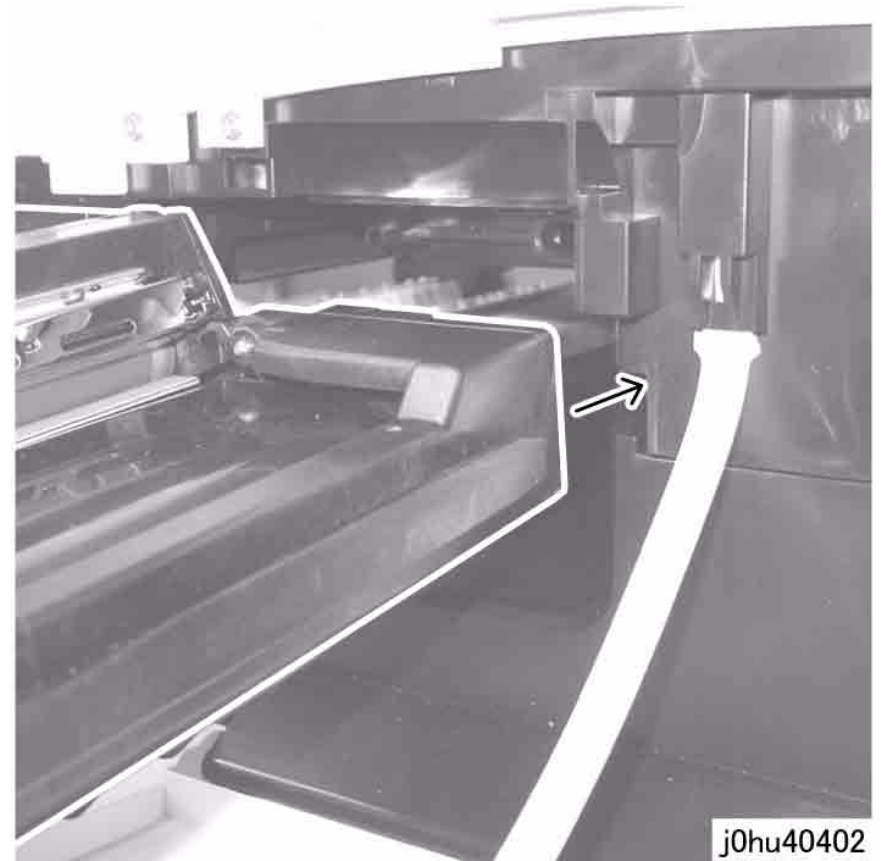

Figure 2 Install Drum Cartridge
2. When installing the Drum Cartridge, align the protruding end of the Drum Cartridge with the cavity in the frame (Figure 2).